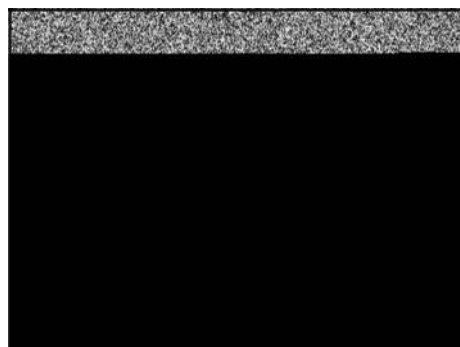

Figure 33
6. Install new inlet needle (**B**, Figure 33) on float (**A**), then position float in carburetor body. Secure with new hinge pin (**C**) and center the pin between the float bosses.